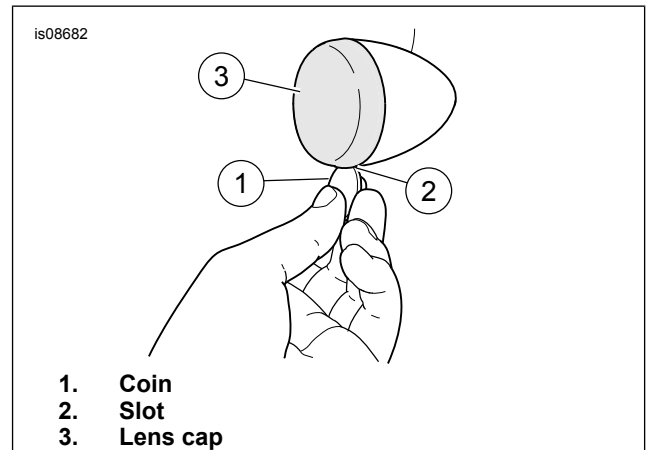

Figure 1. Remove Lens
2. See Figure 1. Insert coin (1) or the blade of a small screwdriver into the notch (2) at the bottom of the lens cap (3). Carefully twist until the lens cap pops out of the lamp housing.